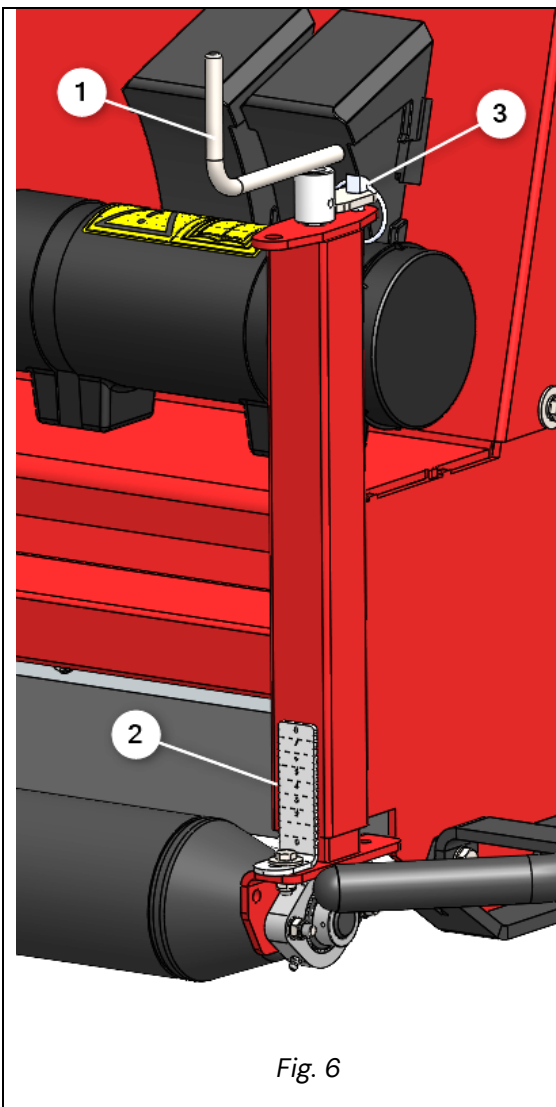

Fig. 6
Scarifying (Fig.6):
2. Lift the machine and adjust the front roller to the desired depth by removing the clip (3) and by activating the spindle levers (1) on both sides of the machine. Use the indicators (2) to read out the depth setting. See the table in *Fig. 6* for reference.
3. When the correct depth is set, lock the levers with the clips (3).